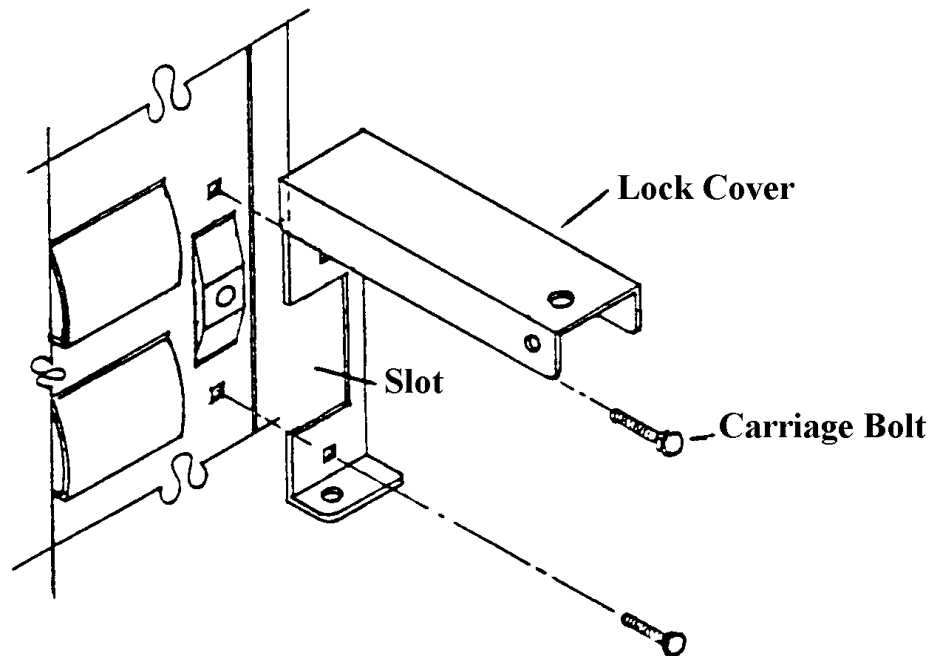

FIGURE 3
2. Position the lock cover over the T-Handle. Note the position of the slot in the lock cover in figure 3 above.